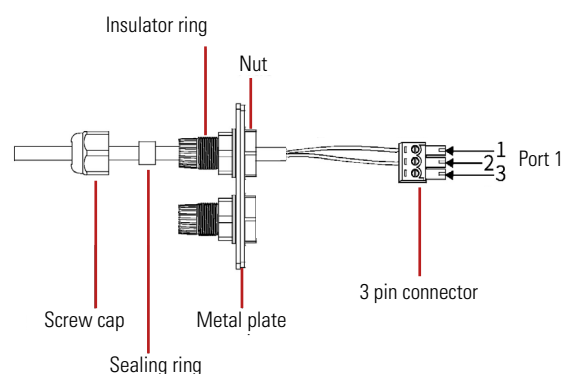

Fig. 35. Terminal connection process.
2. Pass the wire through the hole and connect it to the terminal in the following order: screw cap, sealing ring, insulator, metal plate, nut and 3/6 pin connector, as shown in Fig. 35: